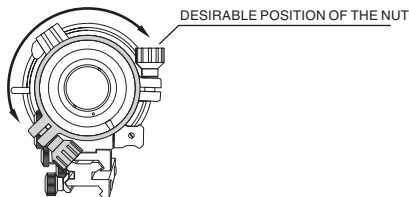

FIGURE 2-5. ESTIMATION OF THE ANGLE WHICH THE SCOPE MOUNTING SYSTEM SHOULD BE TURNED THROUGH
7. Align the seating of the PS-22 and its mounting system on the day scope lens. Decide on the desirable position of the nut and turn the scope mounting system until you achieve it (see arrow in Figure 2-5).